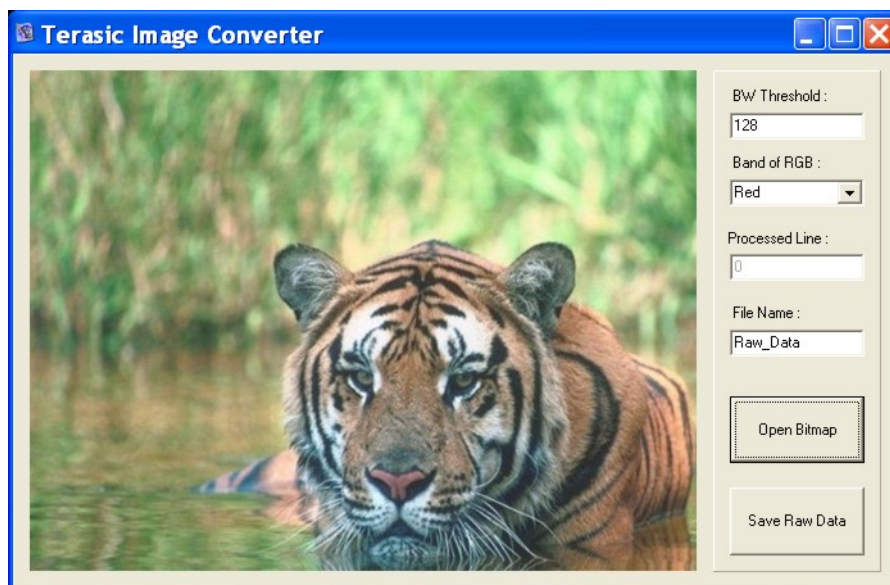

Figure 3.13. The image converter window.
3. Execute *DE1\_control\_panel\ImgConv.exe*, an image conversion tool developed for the DE1 board, to reach the window in Figure 3.13.